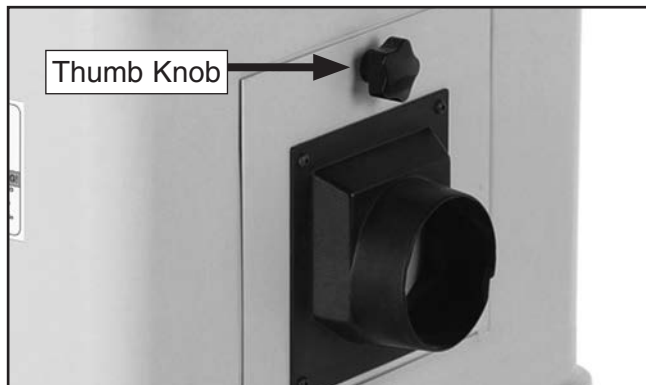

Figure 14. Dust port installed.
5. Insert the lip of the lower part of the dust port into the cabinet and tighten the thumb knob (already installed) to secure (see **Figure 14**).